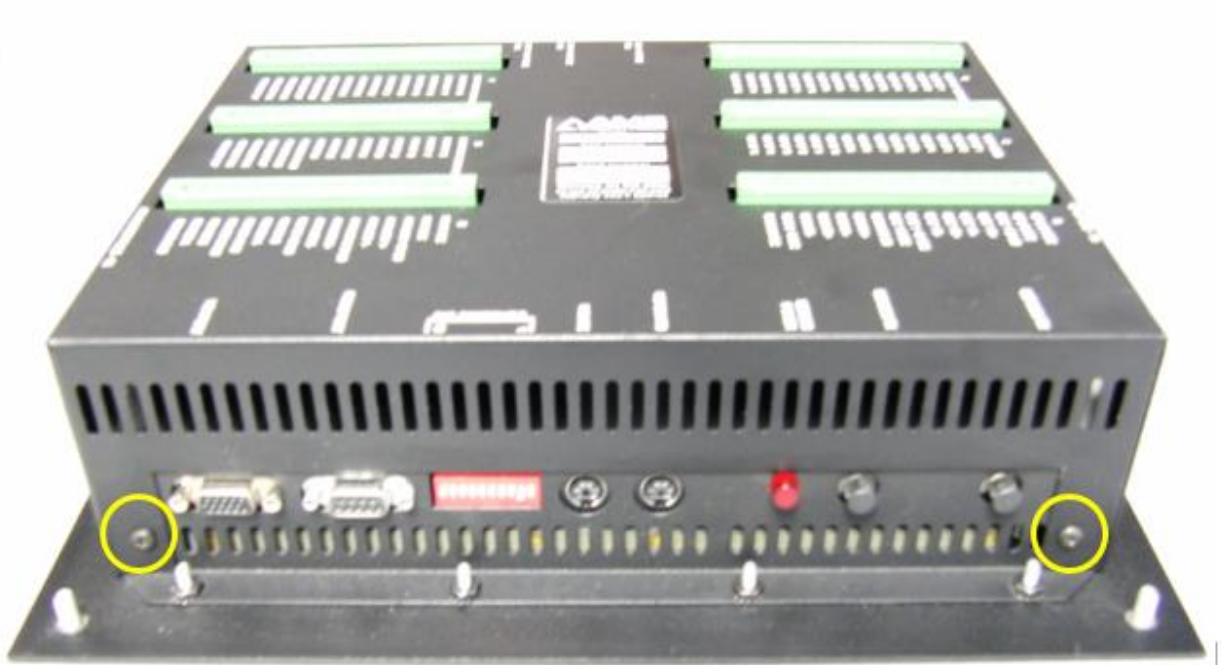

Figure 4 - Top of XL200
3. Remove the 2 screws on the top of the controller circled in yellow in Figure 4.